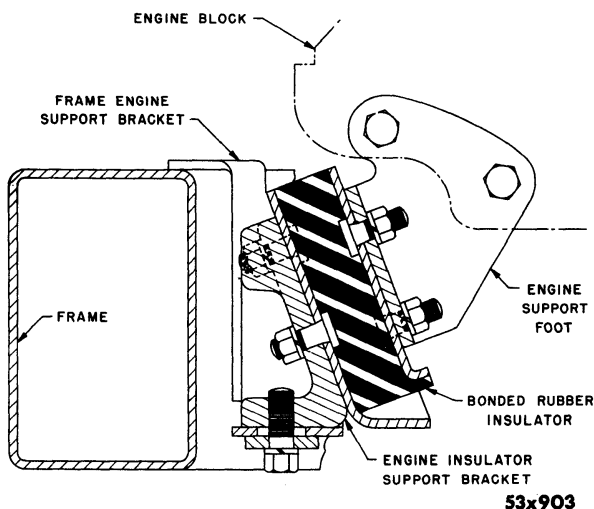
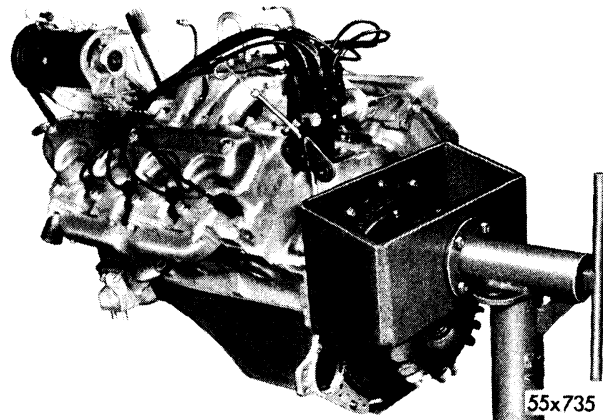

Fig. 9—Shear Type Front Engine Mounting
Fig. 10—Engine Mounted In Stand
- (3) Disconnect wires and linkage at transmission.
- (4) Disconnect propeller shaft at transmission.
- (5) Disconnect speedometer and hand brake cable at transmission.
- (6) Disconnect the exhaust pipes and brackets.
- (7) Remove the hood and battery.
- (8) Disconnect the usual items under the hood such as fuel line, electrical wires, etc.
- (9) If lifting fixture, Tool C-3466, is to be used, disconnect the automatic choke heat tube and vacuum and fuel lines from carburetor and remove carburetor. Attach Tool C-3466 to carburetor flange studs on intake manifold, and attach chain hoist to fixture eye-bolt.
- (10) Raise car off floor; install engine support fixture, Tool C-3082. Insert hooks of fixture firmly into holes in side of frame. Adjust fixture to support the weight of engine.
- (11) Remove rear crossmember-to-transmission attaching bolts.
- (12) Remove crossmember-to-frame bracket attaching bolts and remove crossmember and rear engine support.
- (13) Remove the engine front support mounting bolts. (Refer to Fig. 9.)
- (14) Raise engine and, at the same time, work engine out of chassis toward the left front fender.
- (15) Lower engine to floor, brace engine with suitable blocks, and remove the transmission. Mount the engine in repair stand, Tool C-888 (Fig. 10). With the use of the repair stand the engine can be rotated 360 degrees to any convenient working position.